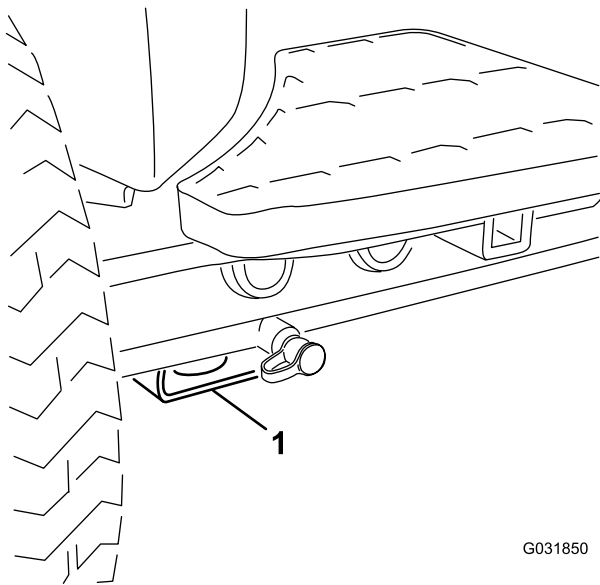

Figure 41
- Front—rectangular pad, under the axle tube, inside each front tire (Figure 41).